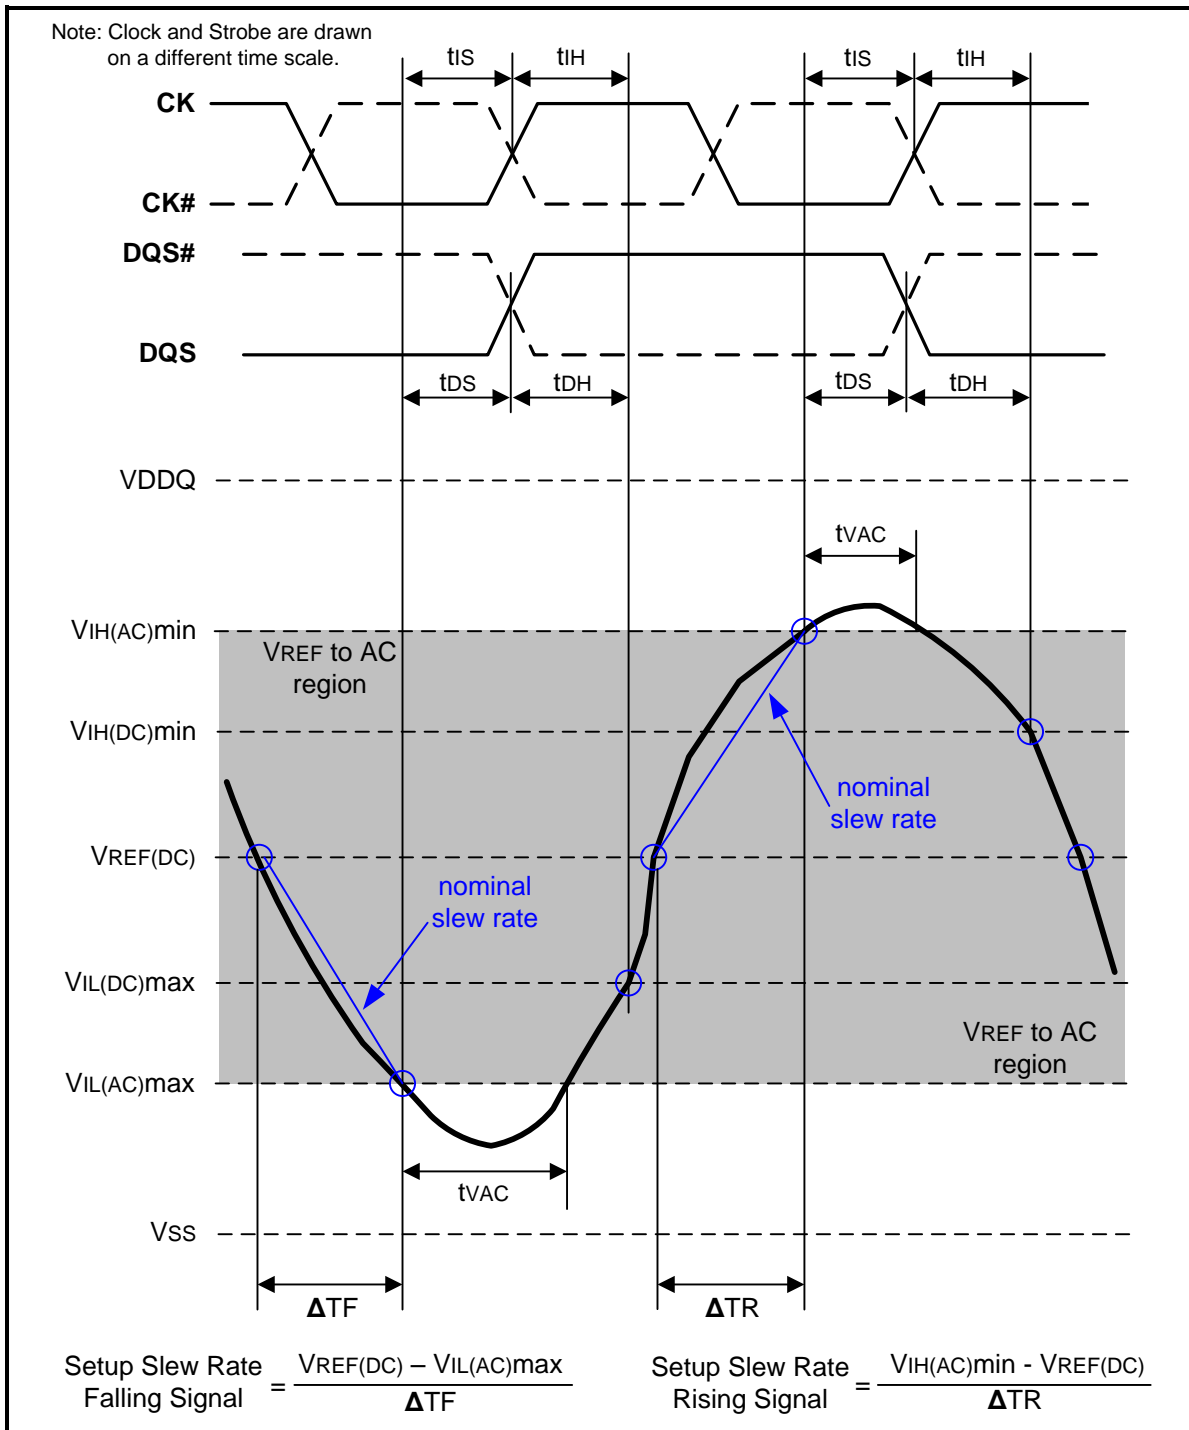
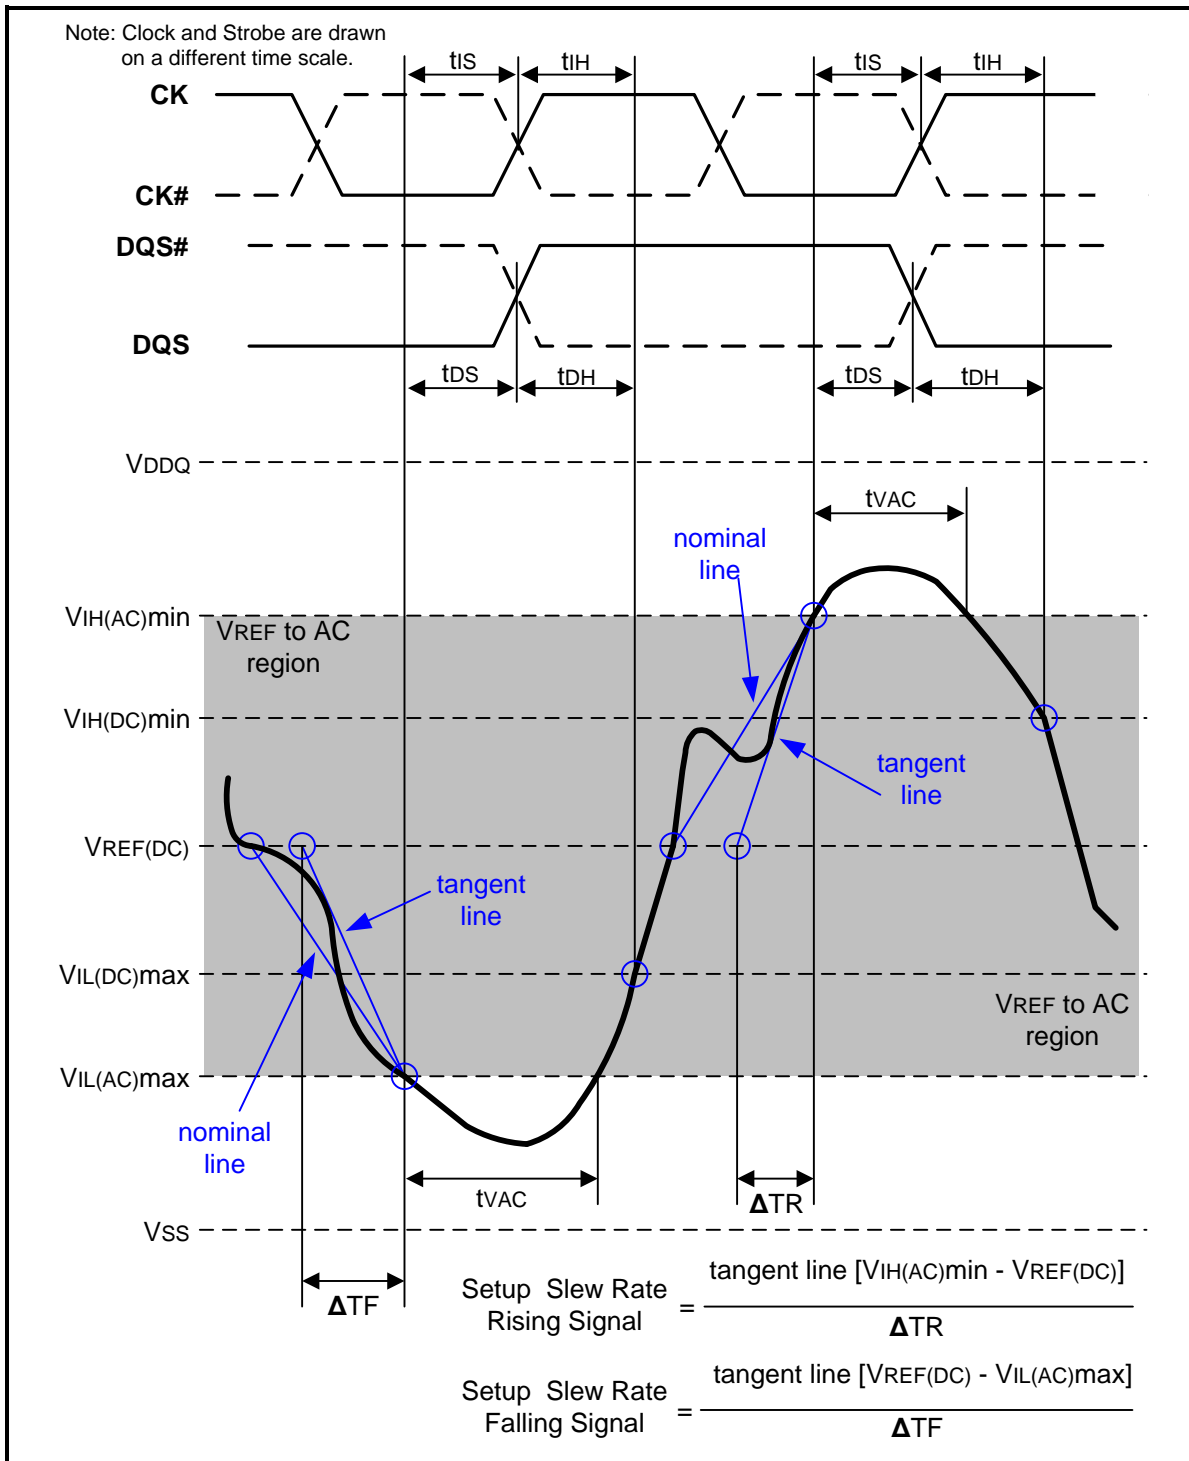

Figure 107 – Illustration of nominal slew rate and tvAC for setup time tDS (for DQ with respect to strobe) and tIS (for ADD/CMD with respect to clock)
Figure 109 – Illustration of tangent line for setup time tDS (for DQ with respect to strobe) and tIS (for ADD/CMD with respect to clock)
Setup ( $t_{IS}$ ) nominal slew rate for a rising signal is defined as the slew rate between the last crossing of  $V_{REF(DC)}$  and the first crossing of  $V_{IH(AC)min}$ . Setup ( $t_{IS}$ ) nominal slew rate for a falling signal is defined as the slew rate between the last crossing of  $V_{REF(DC)}$  and the first crossing of  $V_{IL(AC)max}$ . If the actual signal is always earlier than the nominal slew rate line between shaded 'VREF(DC) to AC region', use nominal slew rate for derating value (see Figure 107). If the actual signal is later than the nominal slew rate line anywhere between shaded 'VREF(DC) to AC region', the slew rate of a tangent line to the actual signal from the AC level to DC level is used for derating value (see Figure 109).
Setup (tDS) nominal slew rate for a rising signal is defined as the slew rate between the last crossing of VREF(DC) and the first crossing of VIH(AC)min. Setup (tDS) nominal slew rate for a falling signal is defined as the slew rate between the last crossing of VREF(DC) and the first crossing of VIL(AC)max (see Figure 107). If the actual signal is always earlier than the nominal slew rate line between shaded 'VREF(DC) to AC region', use nominal slew rate for derating value. If the actual signal is later than the nominal slew rate line anywhere between shaded 'VREF(DC) to AC region', the slew rate of a tangent line to the actual signal from the AC level to DC level is used for derating value (see Figure 109).